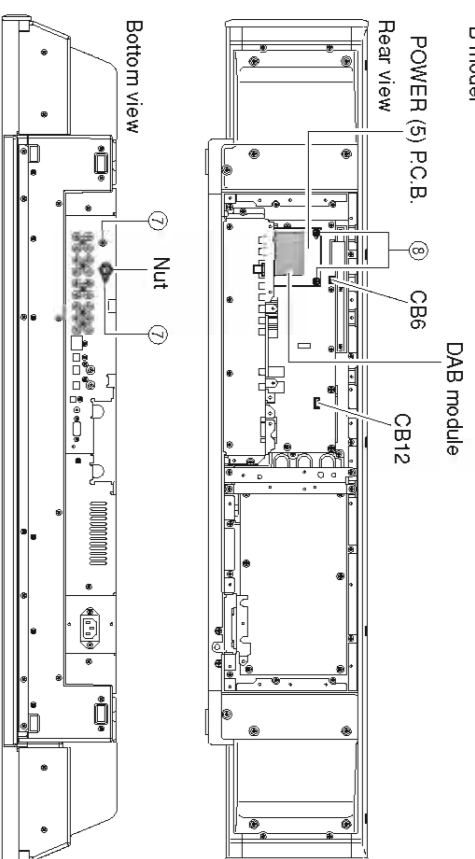

Fig. 4
4. Removal of POWER (5) P.C.B. (DAB tuner, B model)
- Remove 2 screws (⑦). (Fig. 4)
- Remove nut. (Fig. 4)
- Remove 2 screws (⑧). (Fig. 4)
- Remove CB6 and CB12. (Fig. 4)
- Remove POWER (5) P.C.B. together with DAB module. (Fig. 4)